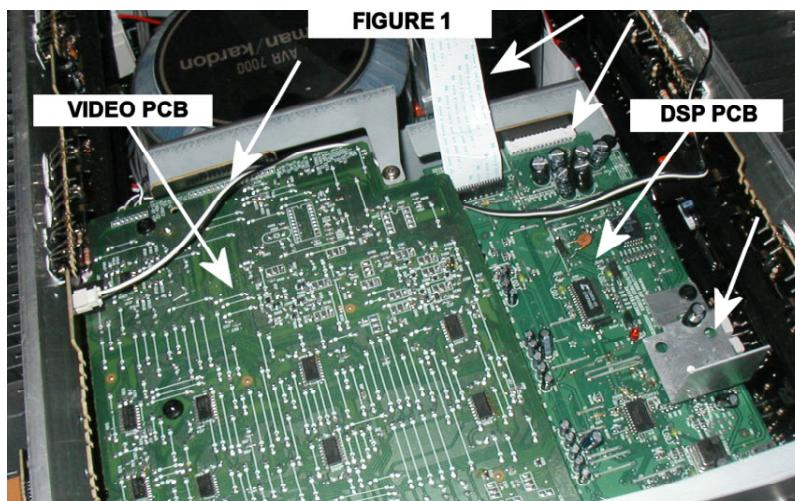

FIGURE 1
- b) Unplug the white ribbon cable from the rear of the DSP PCB (see figure 1)